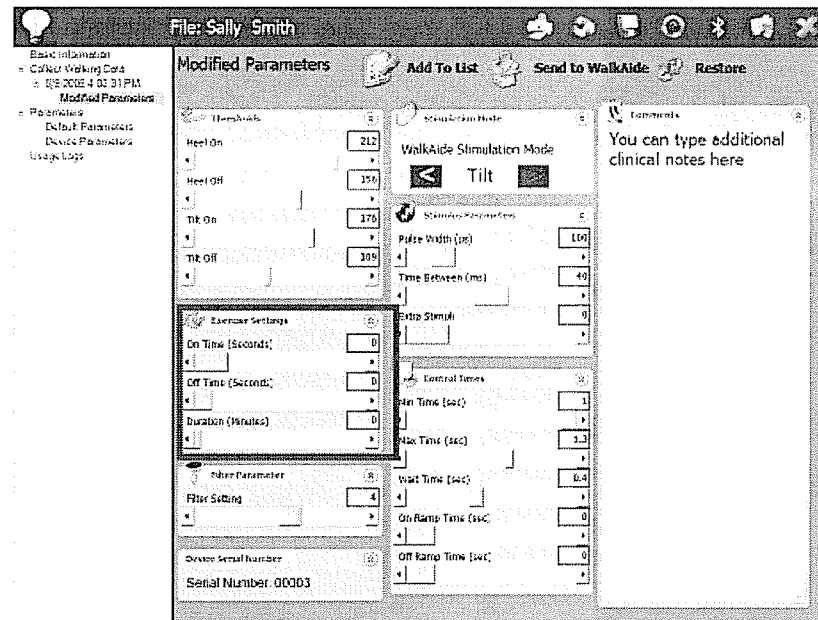

Figure 30 – Exercise Settings.
1. First, click on 'Parameters' from the list on the left side of the screen (Figure 30).